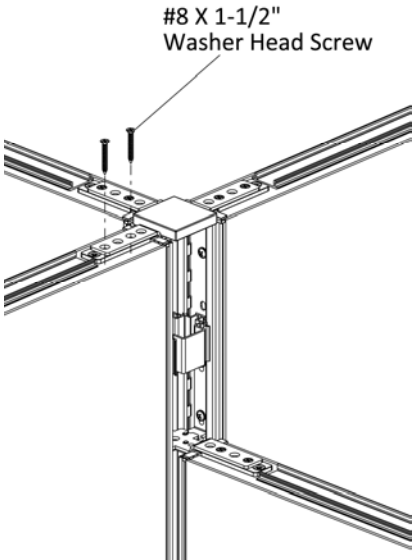

Figure 11
- 20.** Drive two #8 X 1-1/4" Flat Head Screws through the holes in "T" filler connector into the fourth panel, (Figure 11).